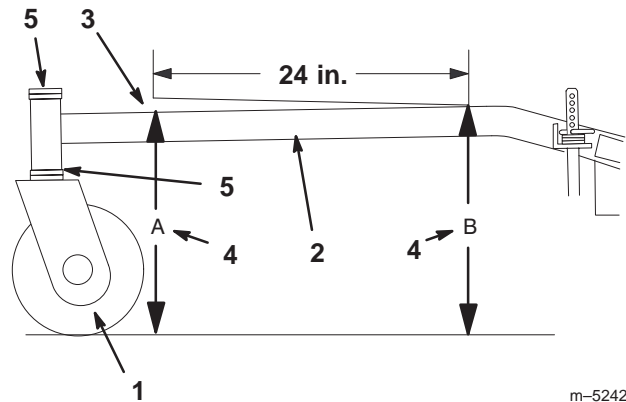

Figure 46
1. Measure out 24 inches on the carrier frame (Fig. 46).
2. Measure carrier frame height at location “A” (Fig. 46).
3. Measure carrier frame height at location “B” (Fig. 46).
4. The height at location “A” must be a 1/4–3/8 in. lower than location “B” (Fig. 46).
5. If the carrier frame is not correct, move caster spacers to make it a 1/4–3/8 in. pitch (Fig. 46). Move spacers from top or bottom to make the correct pitch.